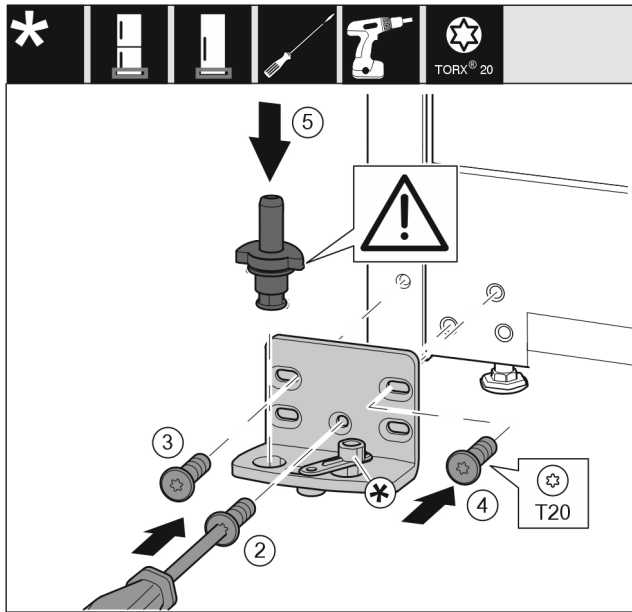

Fig. 15
- ▶ Place the bearing bracket on the other side and screw it in using the T20 screwdriver. Start with screw 2 at the bottom in the middle. Fig. 15 (2)
- ▶ Screw in screws 3 and 4. Fig. 15 (3,4)
- ▶ Insert the bearing pin completely. Make sure that the latching lug is pointing to the rear. Fig. 15 (5)